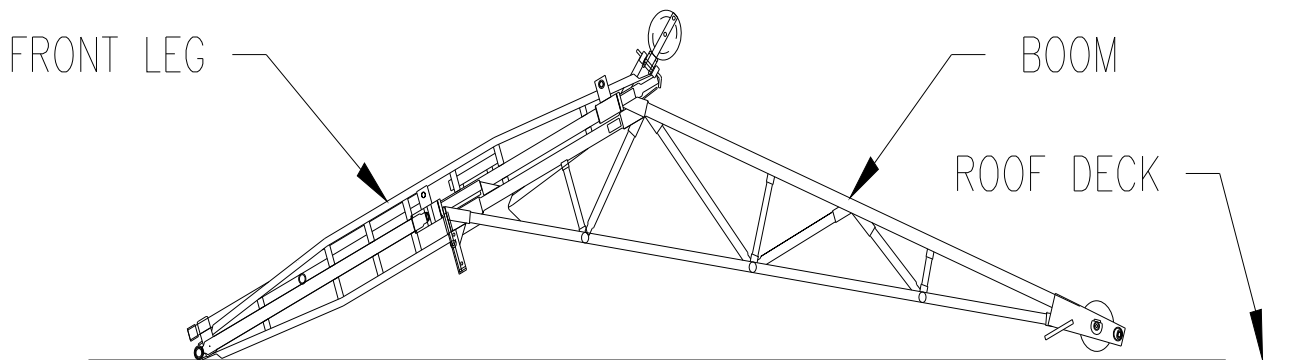

Figure 3-6.
1. With parts laying on the deck, insert Boom pins into Front Leg sockets and position assembly as shown in Figure 3-6. Fit in the bottom Boom pin first.